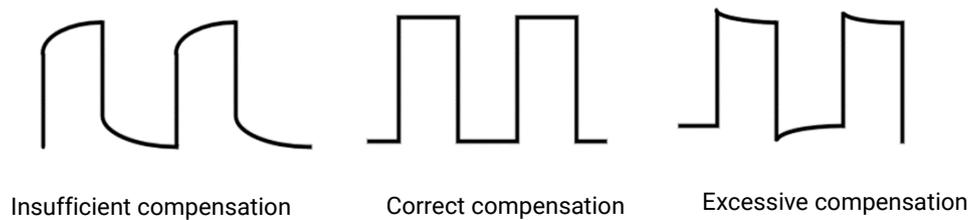

Figure 1-10
- 2) The captured waveform on the oscilloscope is shown in Figure 1-10. If the waveform is found to be improperly compensated, you can use the non-metallic adjustment tool to adjust the probe's variable capacitance. Make adjustments until the waveform matches the correctly compensated waveform in the center.